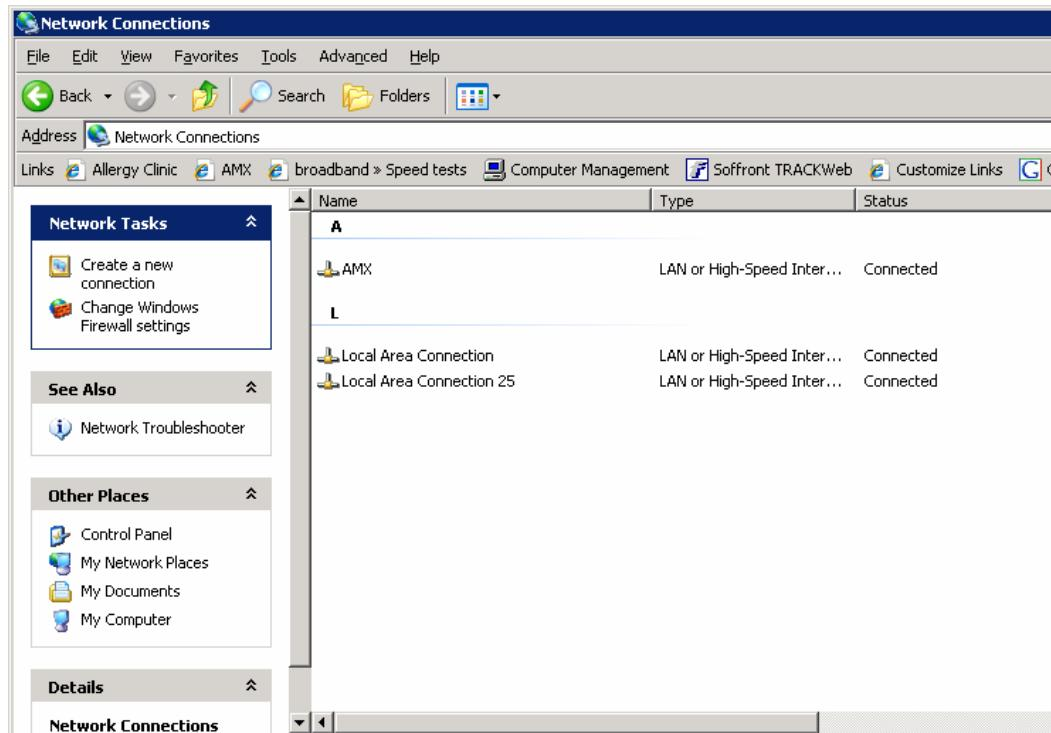

FIG. 77 Network Connections window
2. In the *Control Panel* window, click on the **Network Connections** icon to open the Network Connections window (FIG. 77)